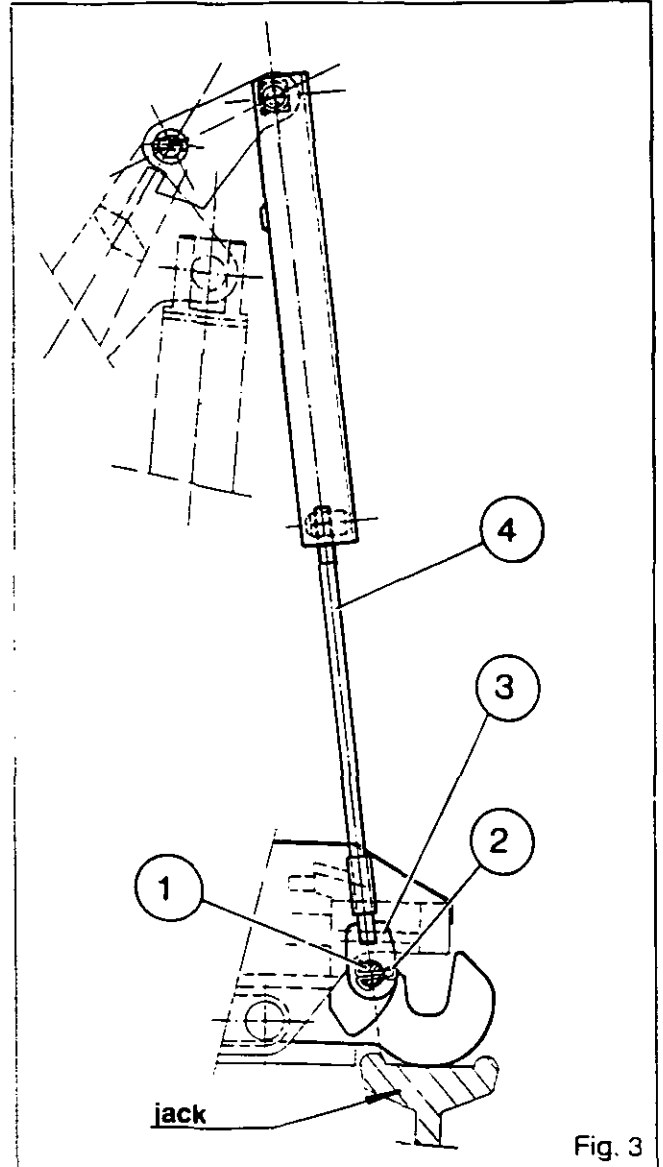
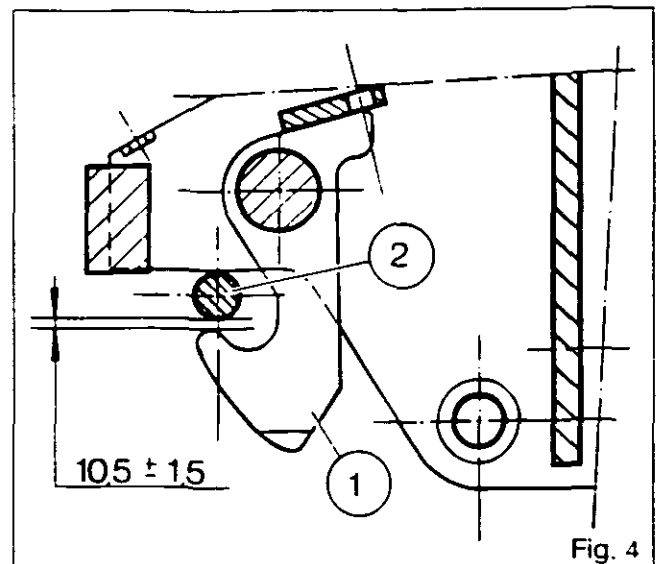

Fig. 3
Fig. 4
13. Raise the lower part of the hook with the aid of a trolley jack (Fig. 3).
14. Having ensured that the upper parts of the lift rods are fixed, adjust the length of the rods by turning the lower rod (4) so that it is able to engage the clevis (3) on the hook pin (1), leaving a play of between 0 and 1 mm.
15. Fit the split pins (2).
16. Activate the internal hitch control button inside the cab and check that there is play of  $10.5 \text{ mm} \pm 1.5$  between the latch (1) and the locking pin (2) (Fig. 4).